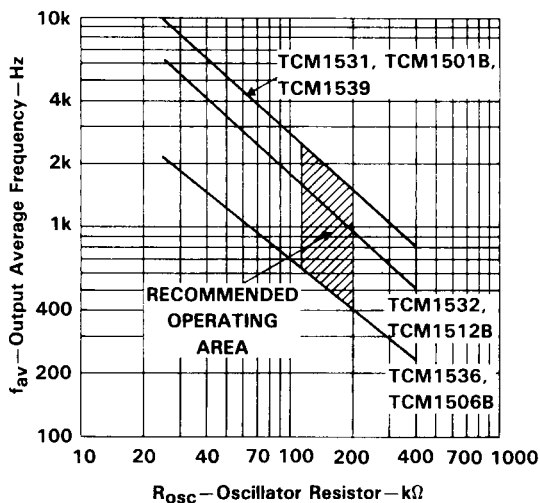

FIGURE 2. OSCILLATOR RESISTOR vs OUTPUT AVERAGE FREQUENCY
**electrical characteristics at 25°C free-air temperature,  $R_L = \text{open}$ ,  $C_{(fltr)} = 10 \mu F$ ,  $f = 20 \text{ Hz}$  (unless otherwise noted), see Figure 2**
electrical characteristics at 25 °C free-air temperature,  $C(f_{lfr}) = 10 \mu F$ ,  $f = 20 \text{ Hz}$  (unless otherwise noted), see Figure 2